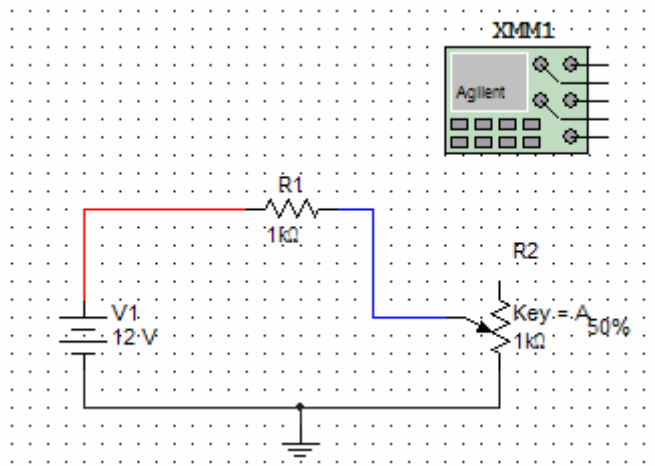

Figure 12. A multimeter placed on to workspace.
10. Left-click the Agilent Multimeter  from the **Instruments Toolbar** and drag the multimeter onto your workspace. Figure 12 shows the result.